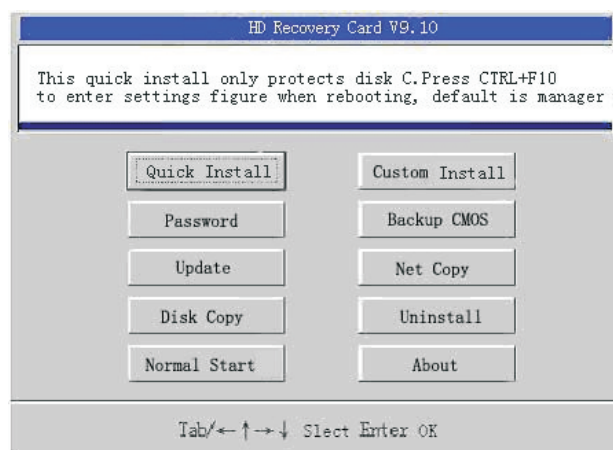

fig 4.1
After driver installed, you are requested to shut down the pc and plug HD Recovery Card into the computer PCI slot. Then start the computer again; the screen of Fig 4-1 will pop out automatically.
- After setup and auto-testing, enter initial installation screen, see fig 4.1.
When it is the first time to install recovery card, if click button Custom Install (see fig 4.1) or Custom Setting (see fig 4.3) After installed recovery card Custom Install button will renamed as Custom Setting )